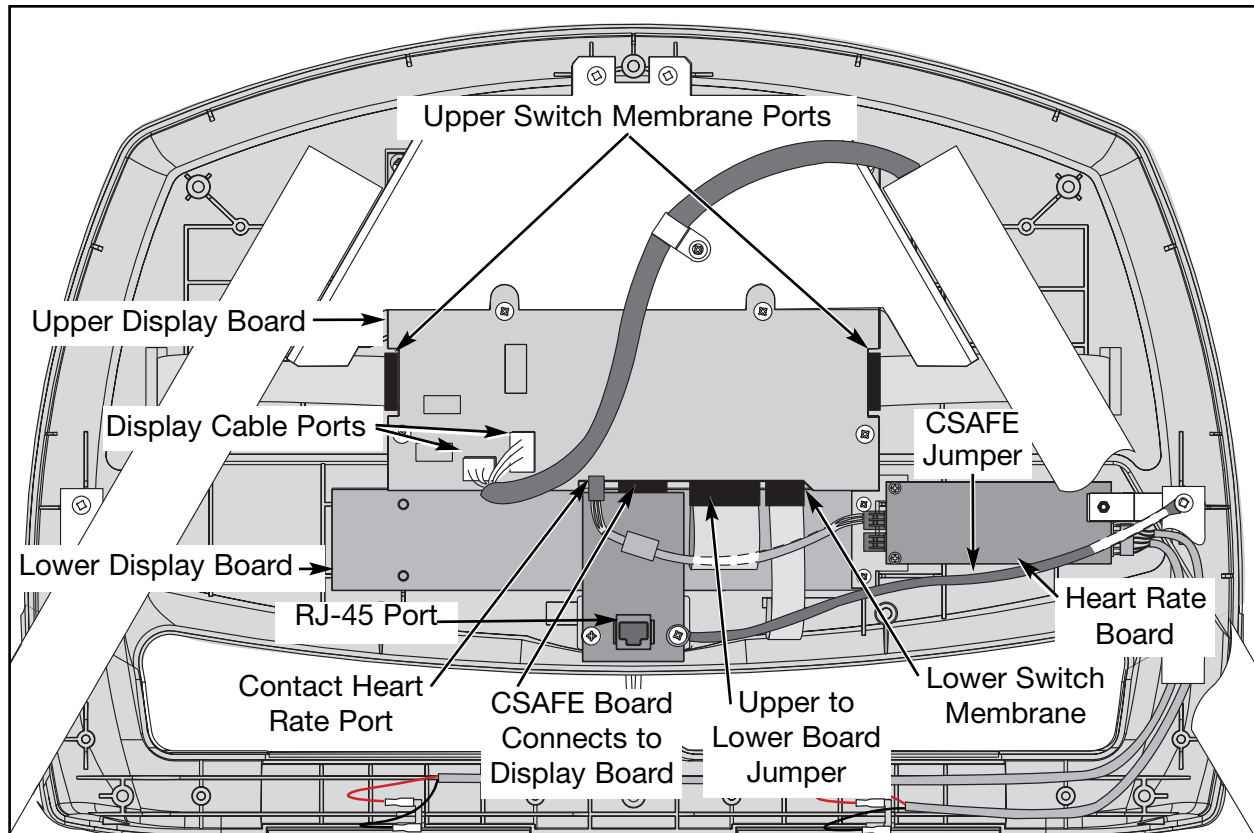

Figure 19
- A. Disconnect these cables from the display board: the display cable (2 connectors), the two upper switch membranes, the lower switch membrane, the contact heart rate cable and the upper to lower board jumper. See Figure 19.
- A. Connect these cables into the display board: the display cable (2 connectors), the two upper switch membranes, the lower switch membrane, the contact heart rate cable and the upper to lower board jumper. See Figure 19.
- A. Connect these cables into the display board: the display cable (2 connectors); the two upper switch membranes; the lower switch membrane; the contact heart rate cable and the upper to lower board jumper. See Figure 19.